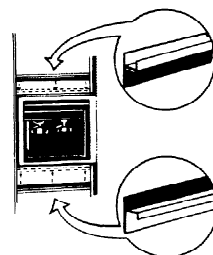

FIGURE 17
7. These trim pieces are designed to fit above AND below the dispenser and provide a groove for panel installation. See Figure 17. (Dispensing Models Only.)
8. To install the decorator trim gently slide the trim into the groove above the dispenser as shown in Figure 17. (Dispensing Models Only.)
9. To install the 2nd piece of trim below the dispenser follow the directions in step 8. See Figure 17 for placement. (Dispensing Models Only.)